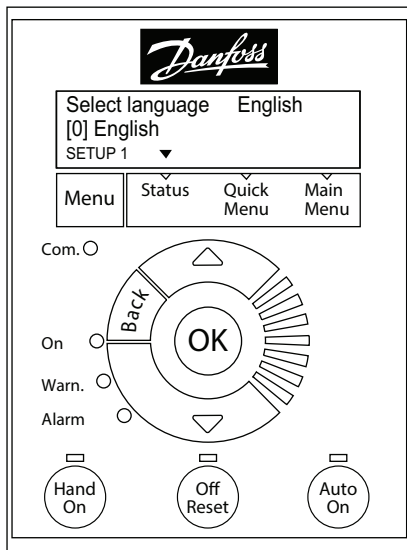

Fig. 87 — Keypad with Power Up Screen Displayed
1. At power-up: At the first power-up, the LCD displays the Select Language screen. The default setting is English. To change the language, press the **OK** key and use the **▲** (Up arrow) and **▼** (Down arrow) keys to scroll to the desired language. Then press **OK**. See Fig. 87.